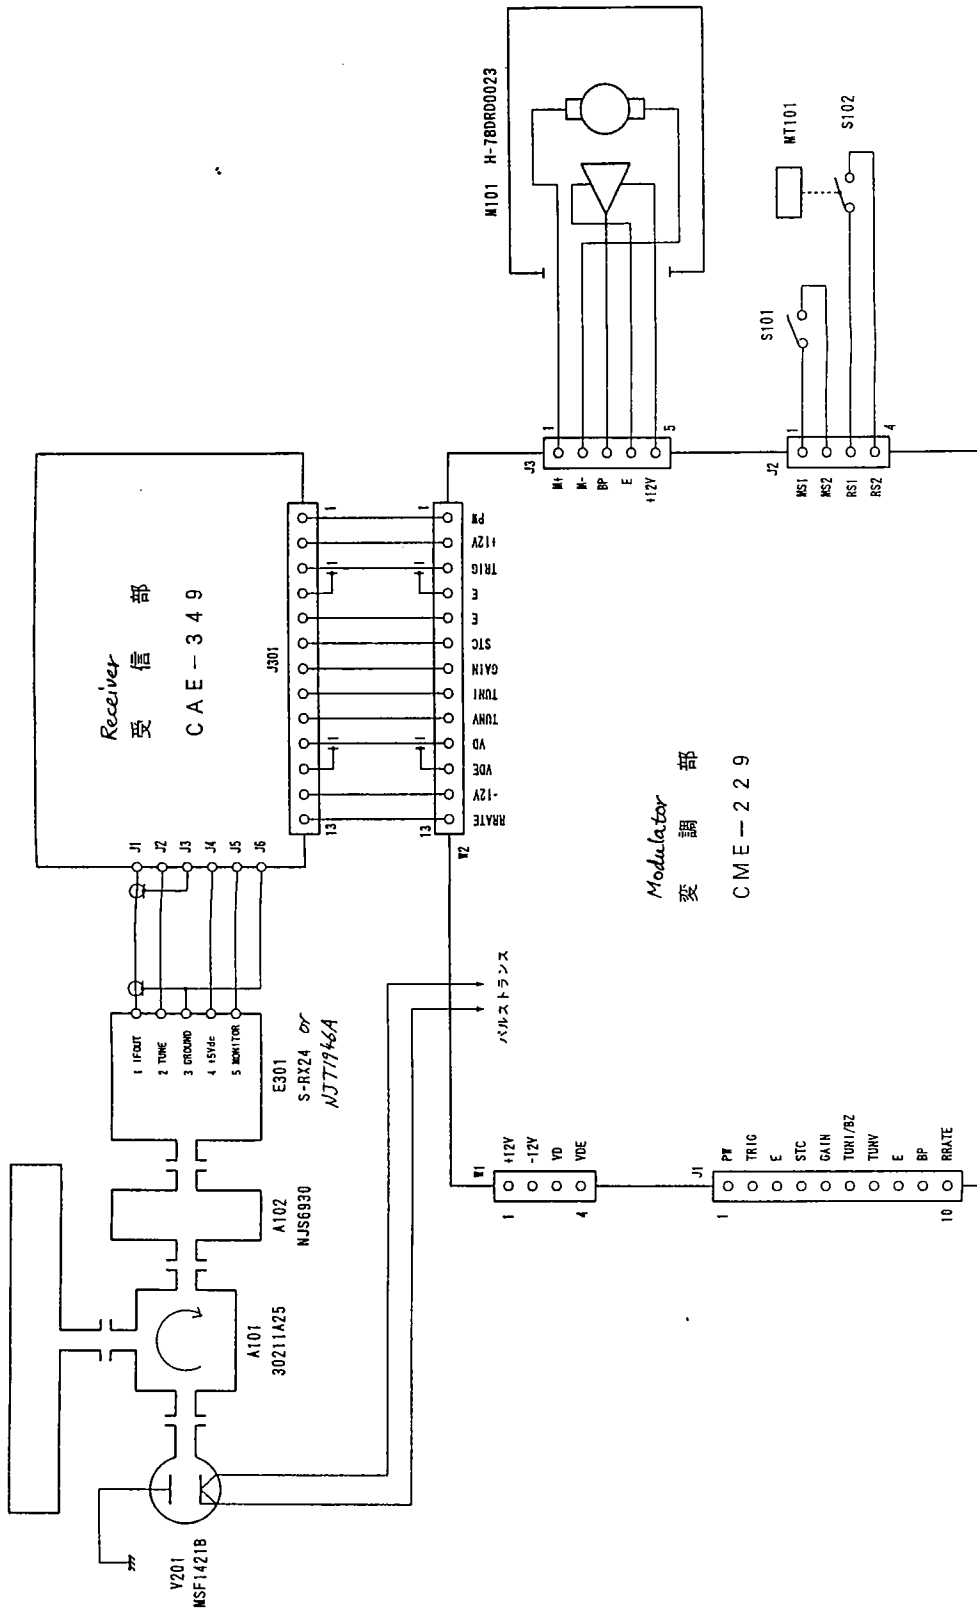

Fig.106 NKE-1046 INTERNAL CONNECTION
- Fig. 106 INTERNAL CONNECTIONS OF SCANNER UNIT NKE-1046A